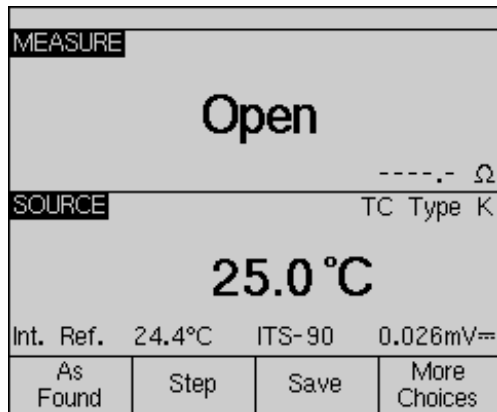

Figure 2.
2. Depress the "MEAS/SOURCE" key once to obtain the Source mode, depress the "TC/RTD" key, move the cursor with the "↓" key to "K" and depress "ENTER" to select a type K thermocouple. Depress "ENTER" again to select "Linear T." Next, enter a temperature output of "25" and depress "ENTER." Depress the "MEAS/SOURCE" key to obtain the split screen display. The display of the 74X should be as per Figure 2.